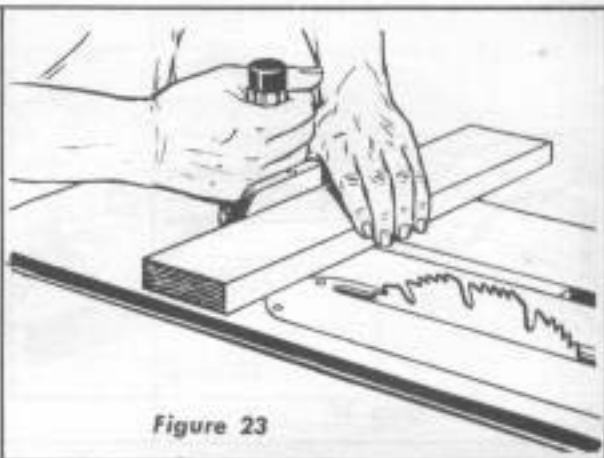

Figure 23
- Sawing wood across the grain is known as "crosscutting". (See figure 23.) Boards are milled with the grain running the length of the board.